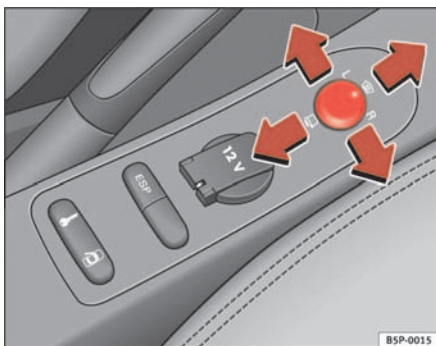

Fig. 89 Exterior mirror control
1. Turn knob ⇒ fig. 89 to position **L (left exterior mirror)**.
- Turn the knob forwards to the central position ⇒ fig. 89 ① so that the heated rear view mirrors warm up and the heated windscreen\* in the wiper blade rest area is activated ⇒ page 121.
- Turn the control ⇒ fig. 89 to position to fold in the exterior mirrors. You should always fold in the exterior mirrors if you are driving through an automatic car wash. This will help prevent damage.